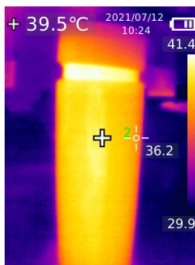

Fig. 11
5. Press the     buttons to move the temperature point to the desired area (Fig. 11).